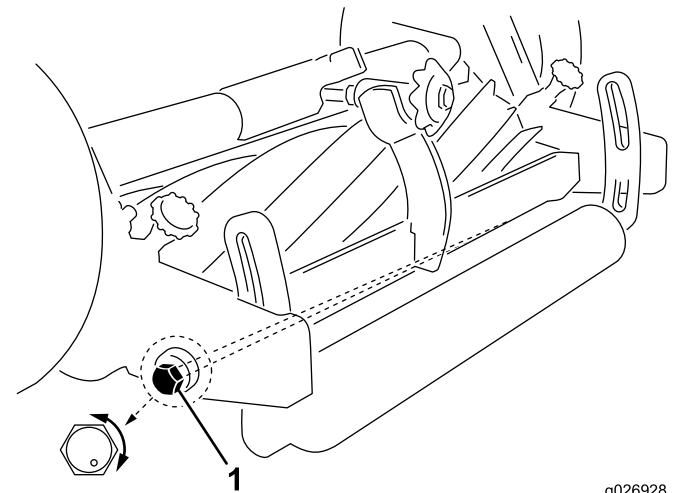

Figure 6
6. Parallel the bedknife to the reel by rotating the left bed-bar pivot bolt (Figure 6). The left pivot bolt has an offset thread which, when rotated, acts as a cam to raise or lower the bedbar. On the left hand pivot bolt there is an offset dot (Figure 6) which denotes the thread of the bolt. When the dot is in the up position (Figure 6) the left end of bedbar is raised. As the bolt is turned clockwise and the dot is lowered, so is the left end of the bedbar. The identification dot is to be positioned within the rear (180 degree) position when adjusting.